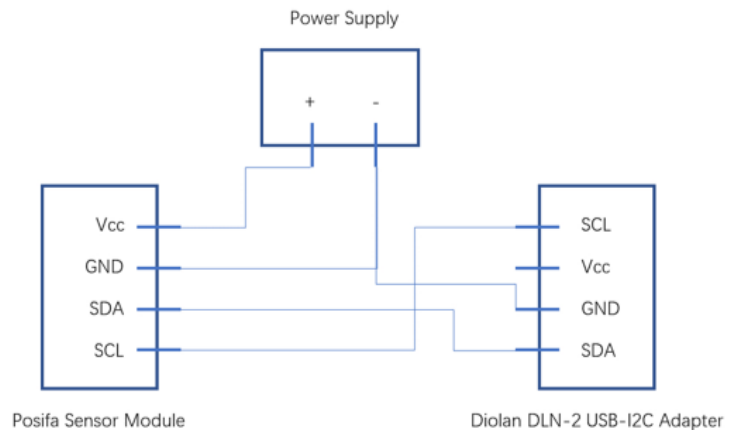

Figure 3
- Do not connect the power pin from the DLN-2 adapter board to the Posifa evaluation board. Instead, connect the Vcc pin of the evaluation board directly to a 5V power supply (Figure 3)